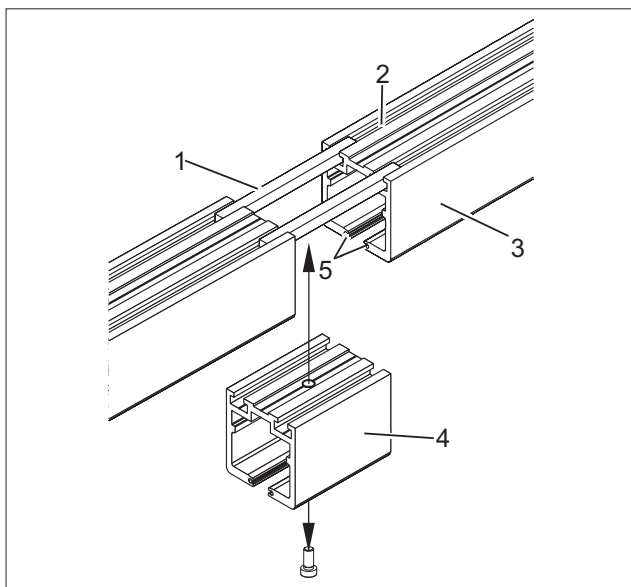

Fig. 30 Inserting the revision piece
1. Insert 2 guide pieces (Fig. 30/1) into the grooves (Fig. 30/2) of the track rail (Fig. 30/3).
2. Force the tapered dowel pins (Fig. 30/5) into the lower channels of the track rail.
3. Insert the revision piece (Fig. 30/4) into the track rail (Fig. 30/3).
4. Tighten the revision piece (Fig. 30/4) with a screw.